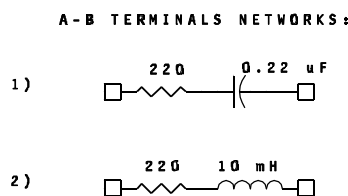

Figure 2 Feedback Networks
4. The LM386 has a feedback circuit accessible to designers; by inserting frequency-sensitive networks, we can alter its frequency response. Install the "1" feedback network from figure 2 below and measure the frequency response. Provide a table and graph as in step 3.